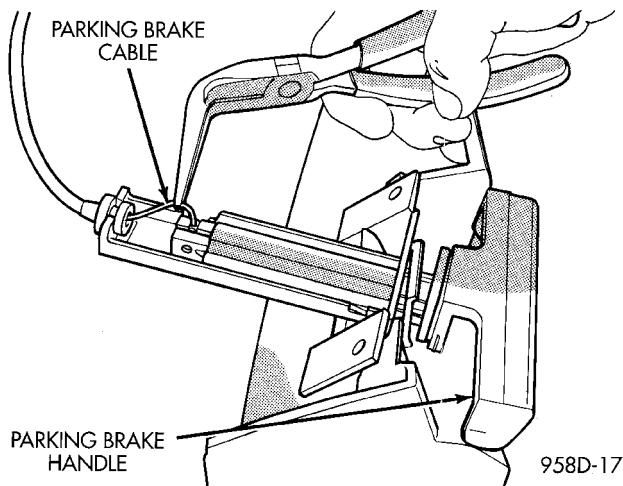

Fig. 4 Parking Brake Release Cable
- (3) Remove parking brake release cable from handle (Fig. 4).